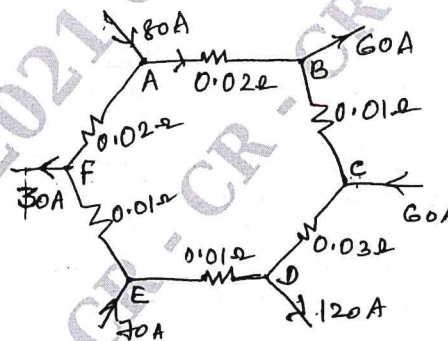

Fig.Q2(c)
- c. Find the current in all the branches of circuit shown in Fig.Q2(c).